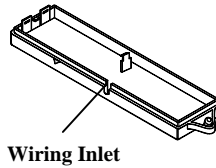

Fig. 4
***Note: - If the transmitter is mounted on a metal frame, the RF transmission range will shrink due to radio signal attenuation. To avoid this effect, you may connect an external reed sensor to the AUX. Input Terminals of transmitter PC Board (as shown in Fig.3) and place the transmitter away from the metal frame. After connecting the external reed sensor, please use a pair of pliers or cutter to break the plastic of the wiring inlet (refer to Fig. 4), and place the wire across the wiring inlet before closing the cover. .***